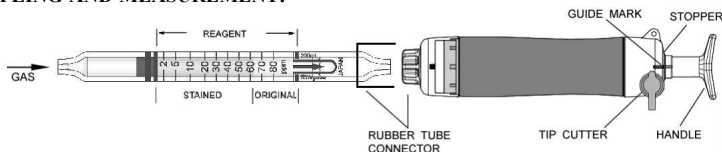

Fig.1
- ① Break both ends of the detector tube.
- ② Insert the detector tube into the aspirating pump securely as shown in Fig.1. (Arrow mark shall point to the pump.)
- ③ Align the guide marks on the shaft and stopper of the aspirating pump.
- ④ Pull the pump handle at a full stroke until it locks and wait for 1.5 minutes or until the completion of sampling is confirmed with the flow indicator of the pump. (See descriptions about the flow indicator in the instruction manual of the pump.)
- ⑤ Push back the handle without removing the detector tube from the rubber tube connector so that air in the pump will be discharged perfectly. Then repeat the step ③~④ once more.
- ⑥ On completion of sampling, read the scale at the maximum point of the stained layer.
- ⑦ When the concentrations are below the scale range, 4 pump strokes can be used to determine these lower concentrations.
- ⑧ When the concentrations are over the scale range, 1 pump stroke can be used to determine these higher concentrations.